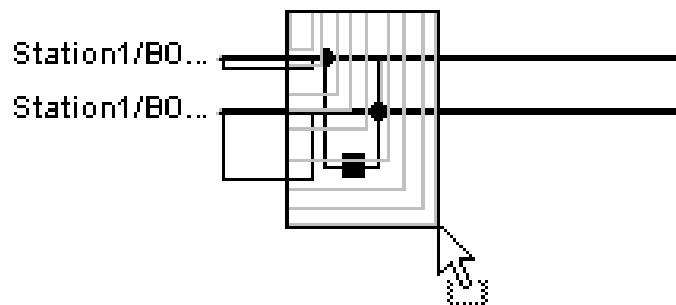

Figure F.1.1: Selecting two busbars
- Select both busbars of the DBS by drawing a rectangle over them: left click the drawing sheet, drag the mouse to draw the rectangle, release the mouse to select both busbars. The DBS does not have to fit in the square: every element that is partly in the square will be selected. In Figure F.1.1, two busbars are about to be selected by dragging a small square over them. Be sure to also select the bus coupler before moving.